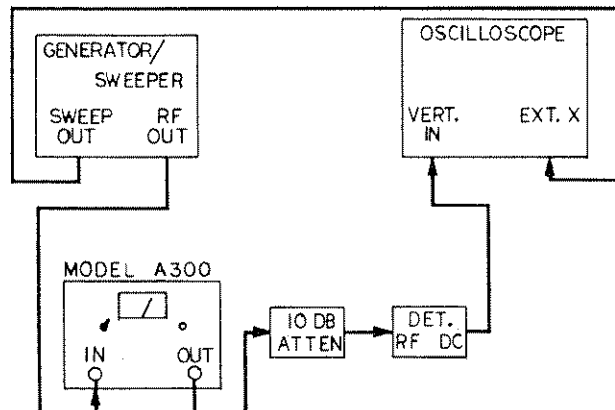

Figure 5-1. Gain and Gain Variation Test Set-Up
- a. Set-up the test equipment as shown in figure 5-1.
- h. Reconnect Model A300 into the test set-up of Figure 5-1.